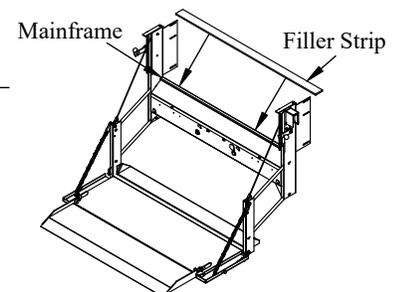

Figure 4: Filler strip location.
1. Weld the filler strip (12ga.x2"x52-3/4") to the top corner of the liftgate mainframe (Figure 4).